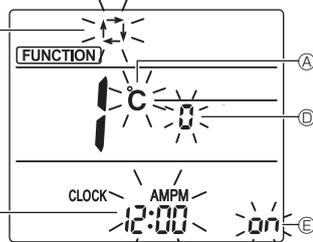

Fig. 6-6
The Screen display setting screen will be displayed. (Fig. 6-6)
6.8.2. Changing the temperature unit (Fig. 6-6 Ⓐ)
6.8.3. Changing the time display (Fig. 6-6 Ⓑ)
6.8.4. Changing the AUTO mode (Fig. 6-6 Ⓒ)
6.8.5. Changing the pair No. (Fig. 6-6 Ⓓ)